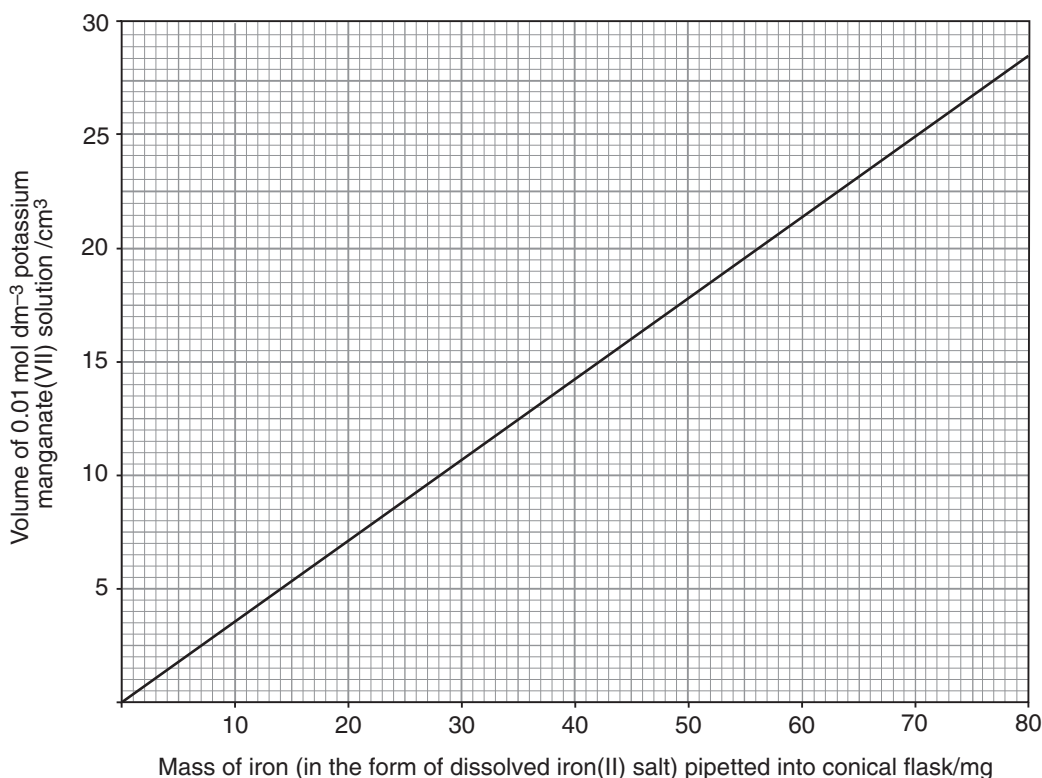

Figure 1 Conversion graph for iron(II) analysis
- 12 Use the conversion graph in Figure 1 to find an average value for the mass of iron which was pipetted into the conical flask each time.
- 14 Calculate how much iron must have been in the mass of hydrated iron(II) ammonium sulphate that you used.
- 15 Calculate the percentage of iron in the hydrated iron(II) ammonium sulphate crystals.
- 16 Look up the formula of hydrated iron(II) ammonium sulphate and compare your result for the percentage of iron in the compound to the theoretical result calculated from the formula.